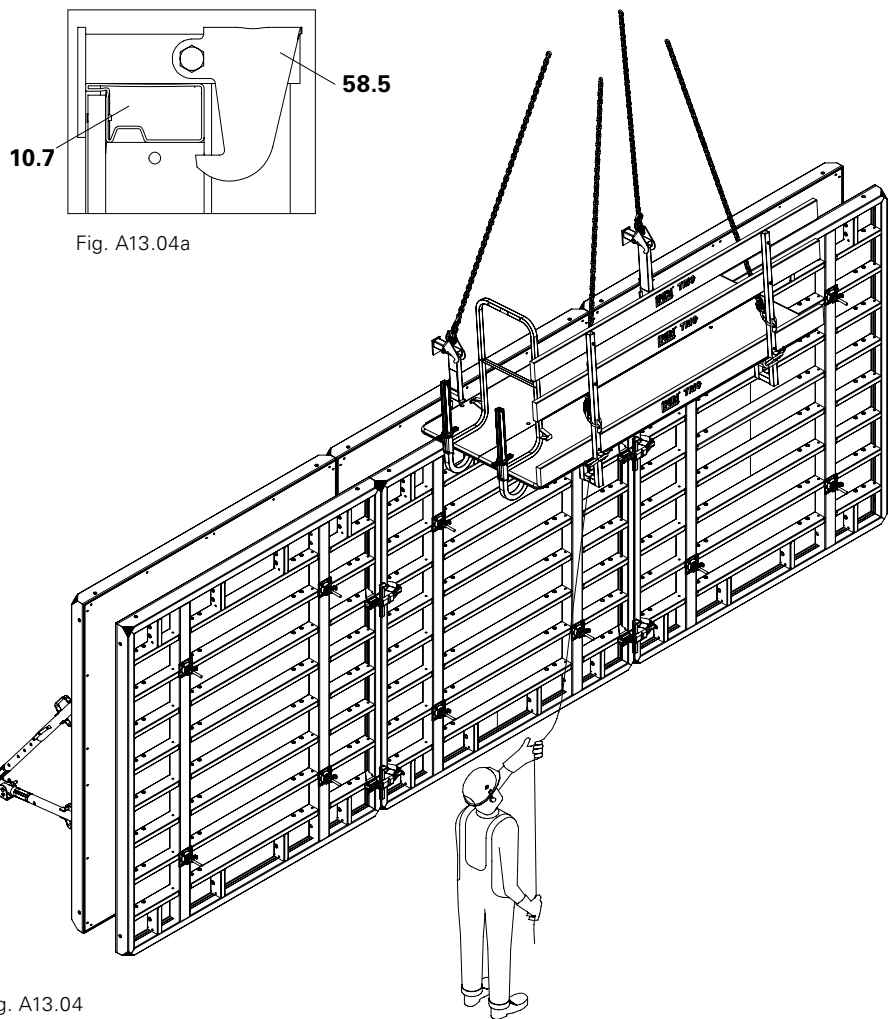

Fig. A13.04
1. Attach the TRIO Concreting Platform with the suspension beam to the top frame profile. Guide from below using guide rope. (Fig. A13.04)